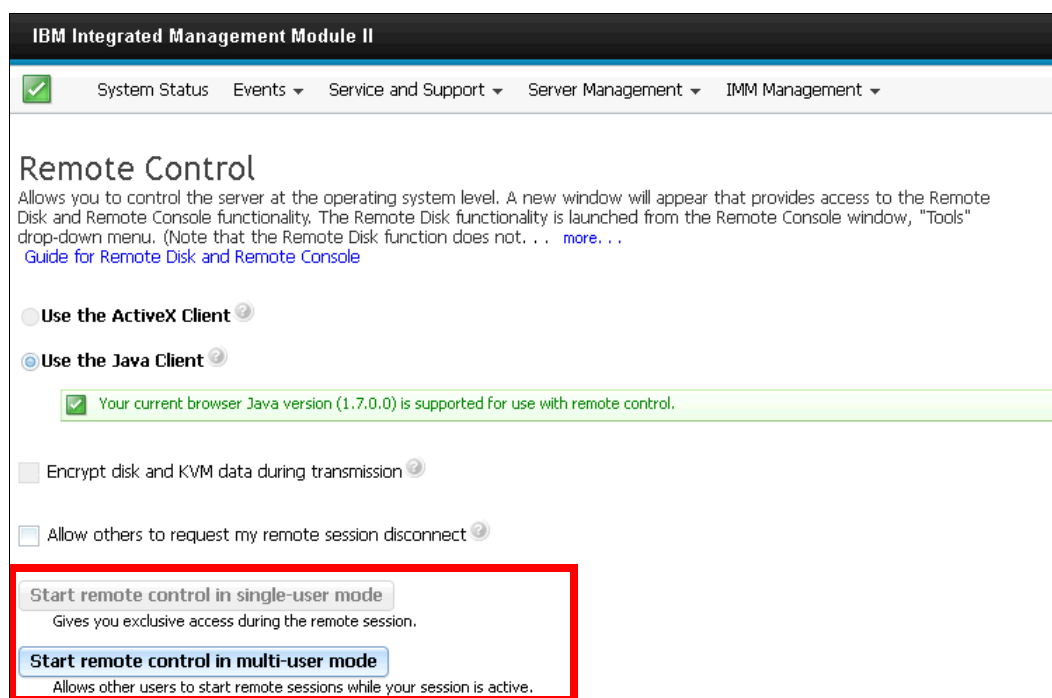

Figure 5-3 IMM2 Remote Control page
Figure 5-3 on page 76 shows the Remote Control page in the IMM2 web page.
4. If you want exclusive remote access during your session, click **Start Remote Control in Single User Mode**. If you want to allow other users remote console (KVM) access during your session, click **Start Remote Control in Multi-user Mode**, as shown in Figure 5-3.